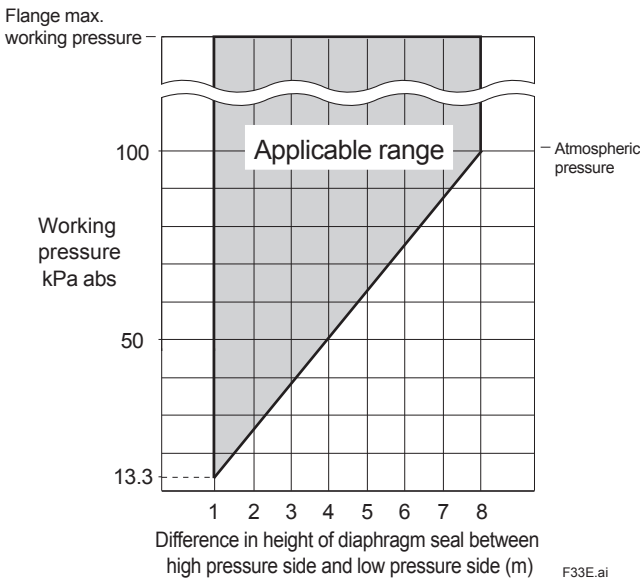

Figure 1j. Working pressure and capillary length
- *9: In case of compensation capillary type, see figure 1j 'Working pressure and capillary length'.